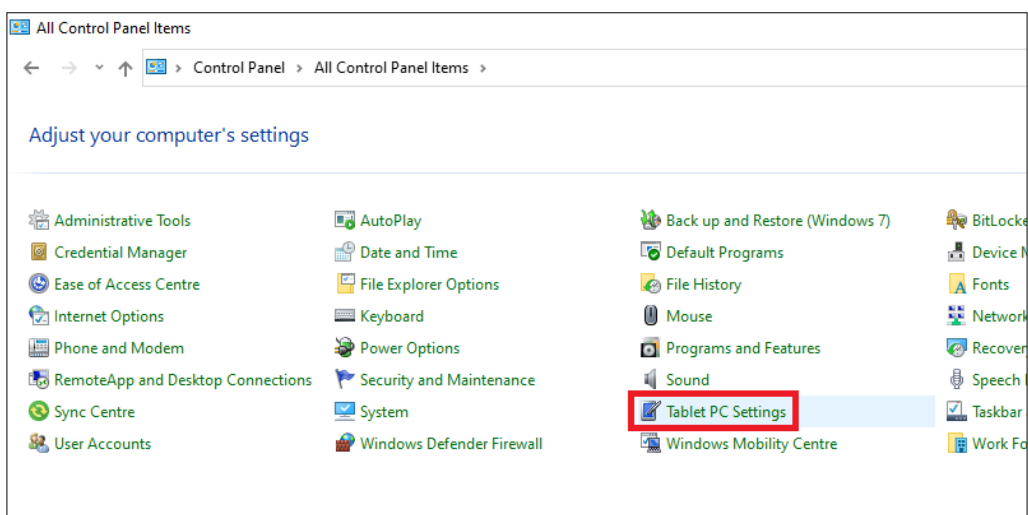

Figure 27: "Control Panel" dialogue – Tablet PC Settings.
- 3 Open "Tablet PC Settings" (see Fig. 27),